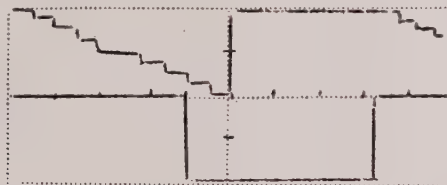

FIG. 3.2. OSCILLOSCOPE DISPLAY OF PROGRAM MODE TRIGGERED AT 60KC.
12. DISCONNECT CHAN 2 PROBE FROM CHAN B MON JACK AND CONNECT IT TO THE SQUARE OUTPUT JACK OF THE GATE GENERATOR. A SCOPE DISPLAY SUCH AS FIG. 3.2 SHOULD BE OBSERVED.